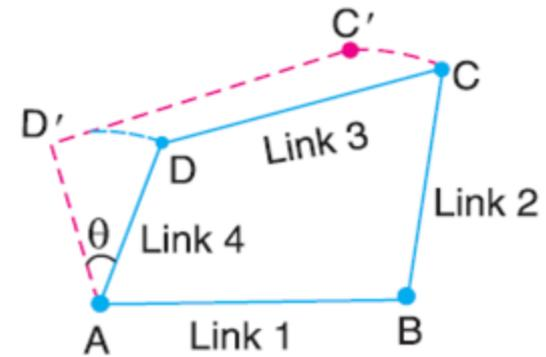

Fig. 5.7. Arrangement of four links.
2. Consider the arrangement of four links AB , BC , CD and DA as shown in Fig. 5.7. In this case
Since the arrangement of four links, as shown in Fig. 5.7, satisfy the equations (i) and (ii), therefore it is a *kinematic chain of one degree of freedom*.